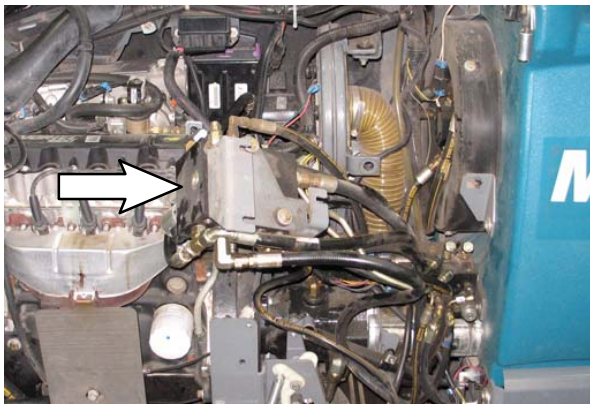

FIG. 6
- Lift the scrub valve assembly up from the hardware and away from the solution tank. (Fig. 6)